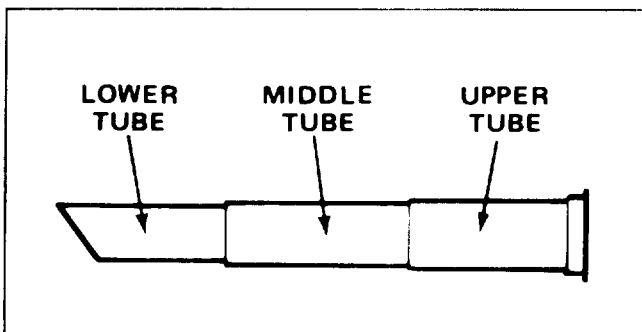

Figure 3
2. Slide upper, middle, and lower tubes together as shown in Figure 3.